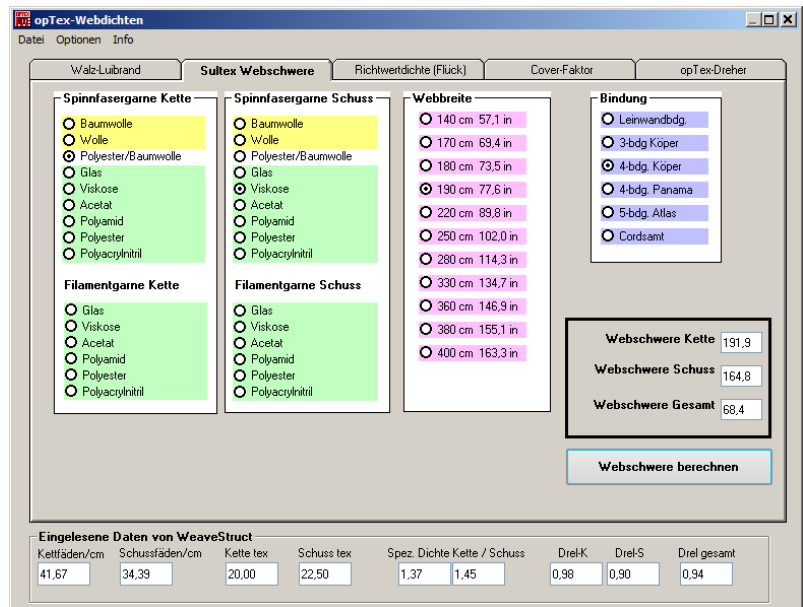

Abb. 2: Calculation of the Sulzer density
1. Weave density after Walz-Luibrand (Fig. 2):
2. Sultex Weave-heaviness (Fig. 2):